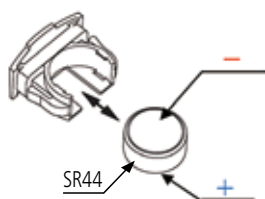

Fig. 1
4. For a digimatic type, use an SR44 battery (**Order No. 938882**). (**Fig. 1**)